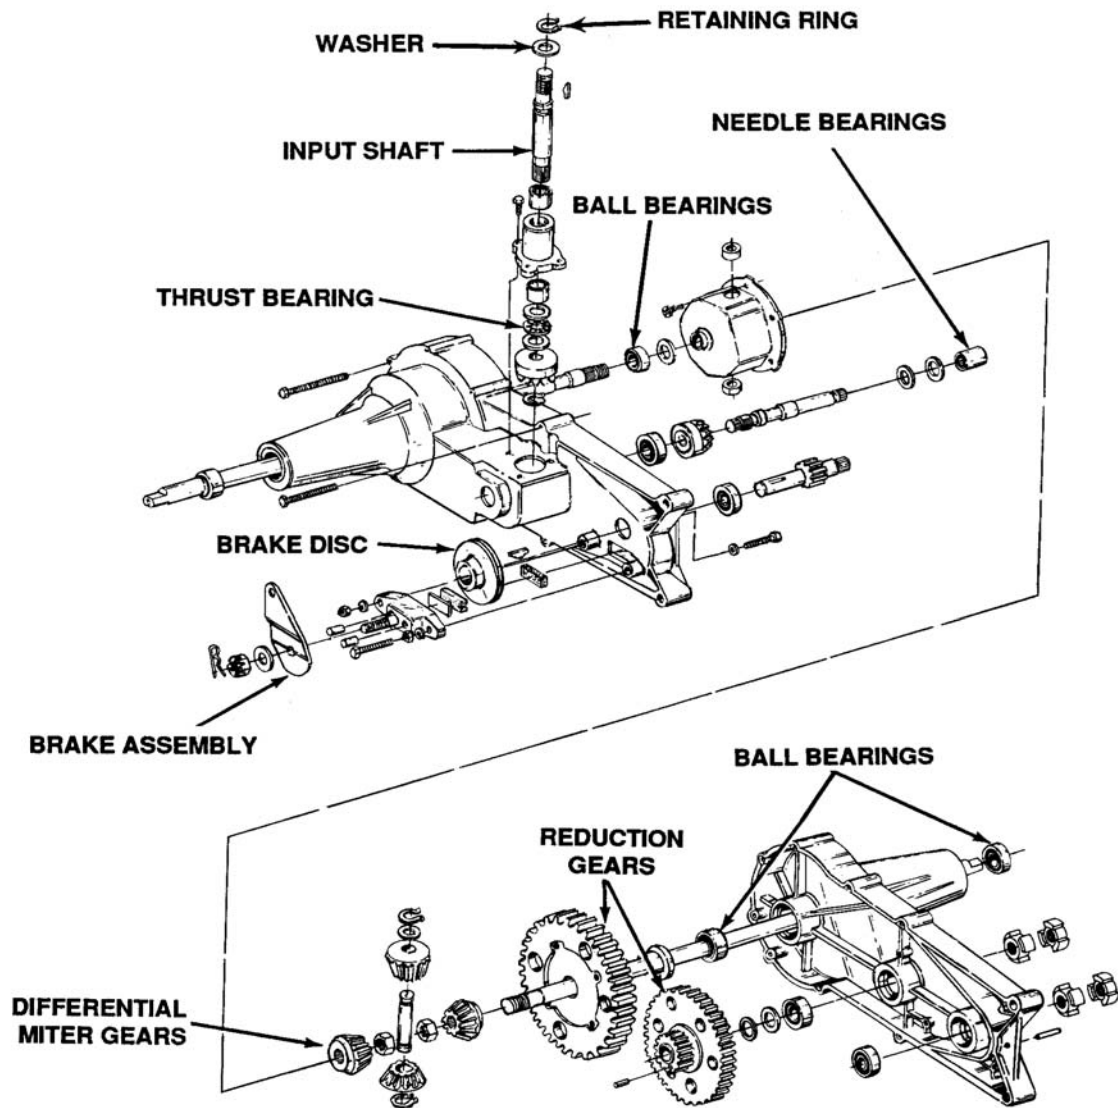

Figure 5-98. Hydrostatic Transaxle 717-0950
1. The 717-0950 transaxle incorporates differential and gear reduction assemblies. See Figure 5-98. It must be used with part number 717-0940 BDU-10S-Sunstrand Hydrostatic Pump. (See Section 6.) All internal drive and axle shafts are resting/turning on heavy duty ball bearings designed for longer life expectancy. The input shaft has needle bearings and also incorporates a thrust bearing assembly for higher speeds with minimal wear. The housing is aluminum die-cast and specially designed for use on lawn and garden tractors.